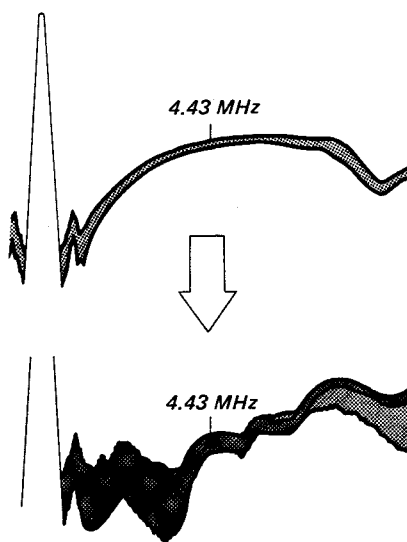

Fig. 5-40.
6. Adjust CV1 on the B board so that the output waveform (near 4.43 MHz or 3.58 MHz) of the tracking scope is minimum. (See Fig. 5-40.)